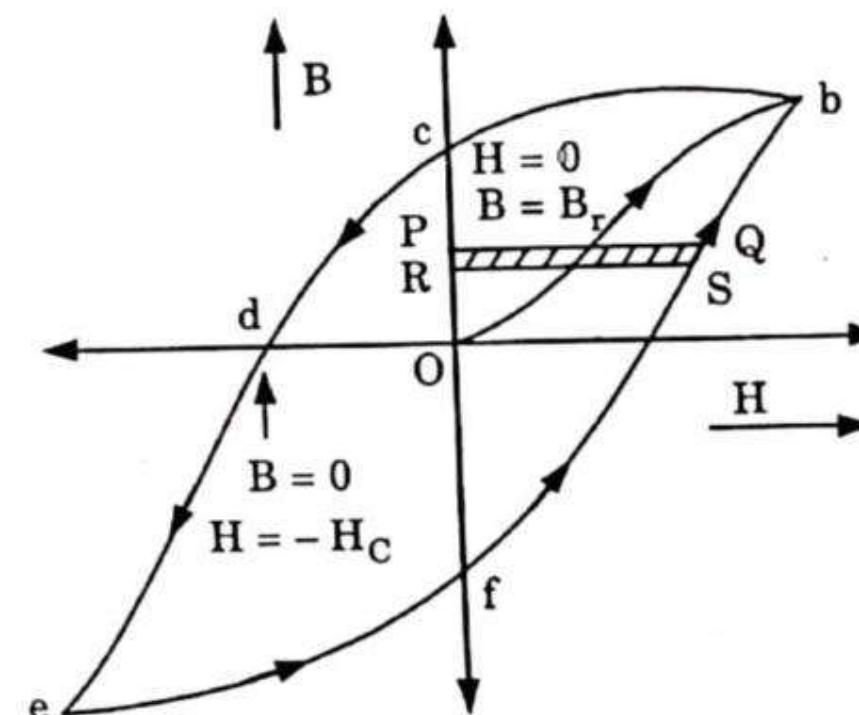

Fig. 3.2.1. Hysteresis loop.
- i. Plotting a graph between B and H for a ferromagnetic material is known as hysteresis curve or B - H curve as shown in Fig. 3.2.1.
- iv. **Residual magnetism :** It is defined as the magnetic flux density which still persists in magnetic material even when the magnetising force is completely removed. In Fig. 3.2.1 on reducing the value of H from the saturation region to zero there remains a flux density B_r which is residual magnetism.
- v. **Coercive force (field) :** It is defined as demagnetizing force which is necessary to neutralize completely the magnetism in an electromagnet when the value of magnetizing force becomes zero. In Fig. 3.2.1, H_C is required to reduce flux density to zero and is called coercive force.